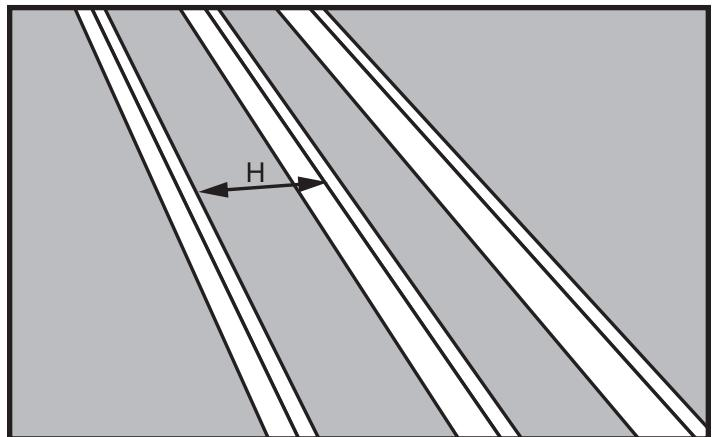

Figure 11
**STEP 1.** Measure the header length “H” between the joists (See Figure 11).